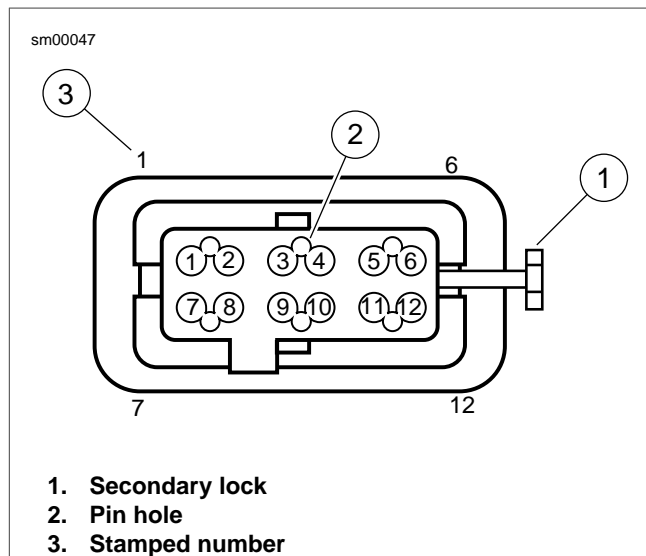

Figure A-44. Packard Micro 64 Connector: Housing
1. See Figure A-44. Locate the head of the secondary lock (1) on one side of the connector housing.
3. Locate pin hole (2) between terminals on mating end of connector.
See Figure A-44. For wire location purposes, the corners of the socket housing are stamped (3) with the numbers 1, 6, 7 and 12, representing terminals 1-6 on one side, and 7-12 on the other.